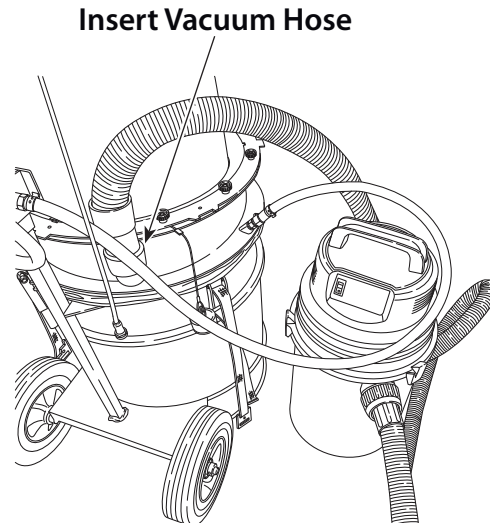

Figure 26
6. Remove the rubber plug from the intermediate base and insert the hose from the vacuum. (Figure 26)